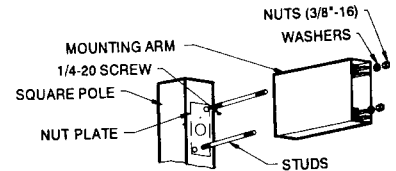

Figure 2
1. Install nut plate (see Figure 2) inside pre-drilled pole with nuts to inside. Secure with screw provided.
2. Install the two (2) studs ensuring that they fully penetrate the nuts on the nut plate.